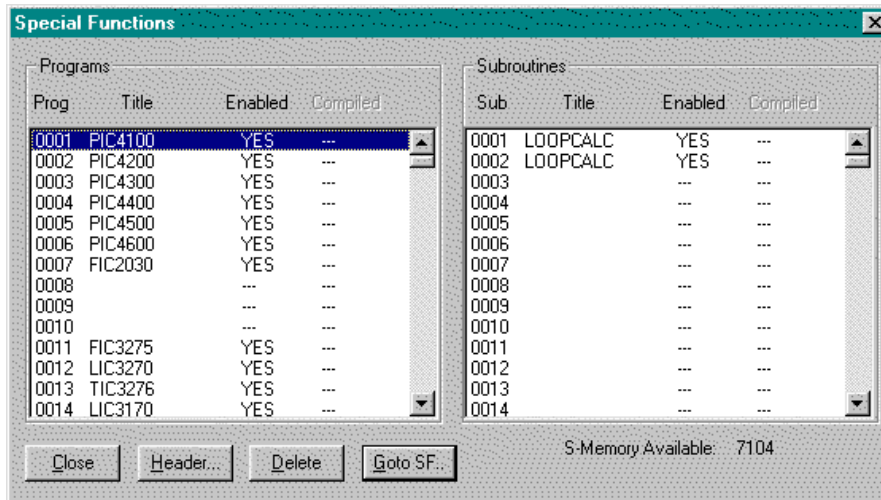

Figure 6.1a
- Click Special Function Program Editor from the View menu (Alt+V, F). The Special Function Program dialog box appears (see Figure 6.1a).